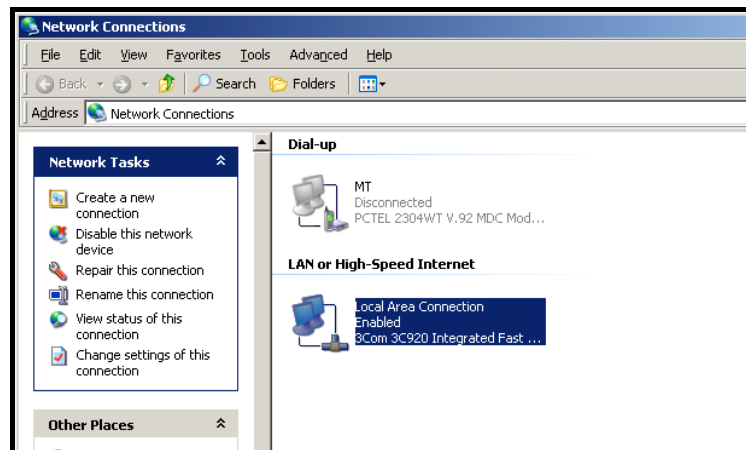

Figure D-5: Network Connections Screen
- b. The window shown in Figure D-5 will display: